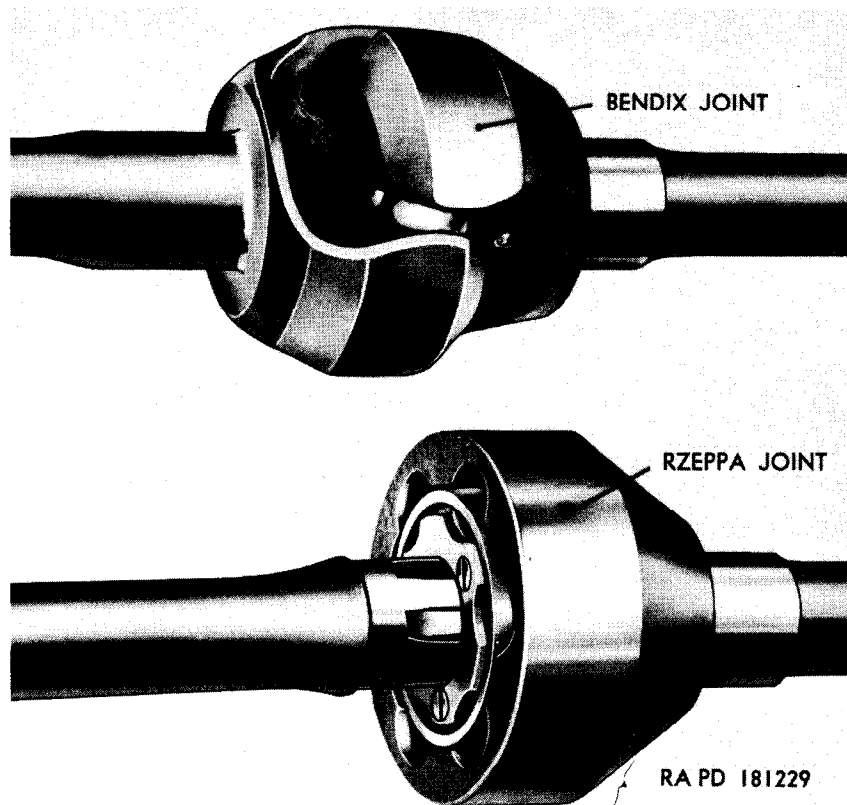

Figure 93. Front axle Bendix and Rzeppa joints.
c. Axle Shafts. Each axle shaft comprises an inner shaft and an outer shaft connected by a universal joint. Two types of universal joints (fig. 93) are used. Axle shafts using the different type universal joints are identified by a tag attached to the steering knuckle oil seal retainer.
d. Bendix Universal Joint (fig. 93). The Bendix joint functions to drive through balls held in a circle. The Bendix universal joint comprises basically five universal joint balls and two pins which secure
e. Rzeppa Universal Joint (fig. 93). The Rzeppa joint consists of a hollow end of an axle shaft which fits over a solid member of the mating axle shaft. The Rzeppa universal joint comprises a ball cage and race in conjunction with four universal joint balls which are held in place by the universal joint inner shaft retainer. The end play of the Rzeppa universal joint is also predetermined in manufacture by the position and thickness of the bushing type spindle bearing and shaft to housing thrust washer in conjunction with snap ring at the outer